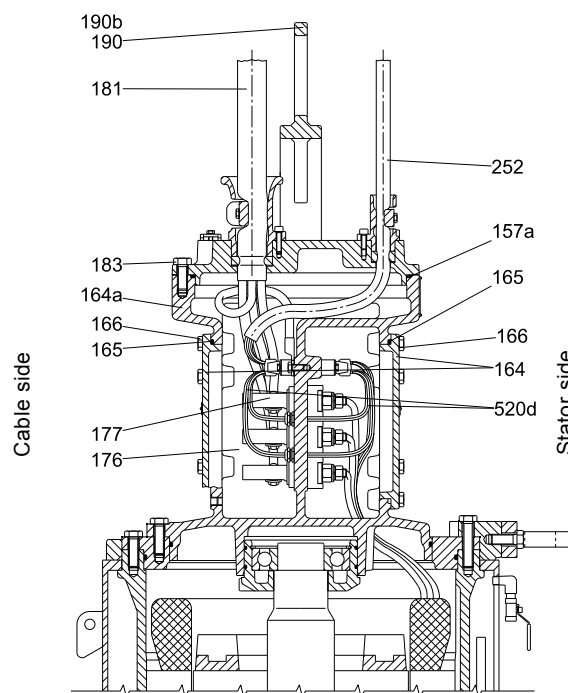
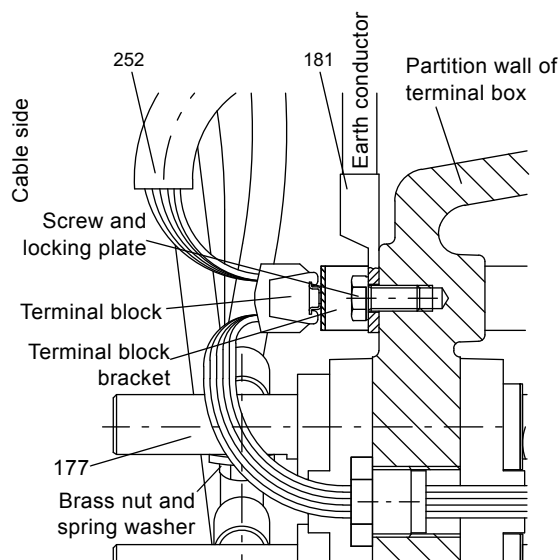

Fig. 29 Terminal box, range 74
Fig. 30 Terminal block in terminal box, cable side
1. Remove the screws (166) from the terminal box cover (164) on the cable side. See fig. 29.
2. Remove the terminal box cover (164) from the terminal box (164a) including the O-ring (165).
3. Disconnect the control cable wires (252) from the terminal block. See fig. 30.
6. Remove the brass nuts and the spring washers from the terminal board (177) on the cable side. Disconnect the power cables (181).